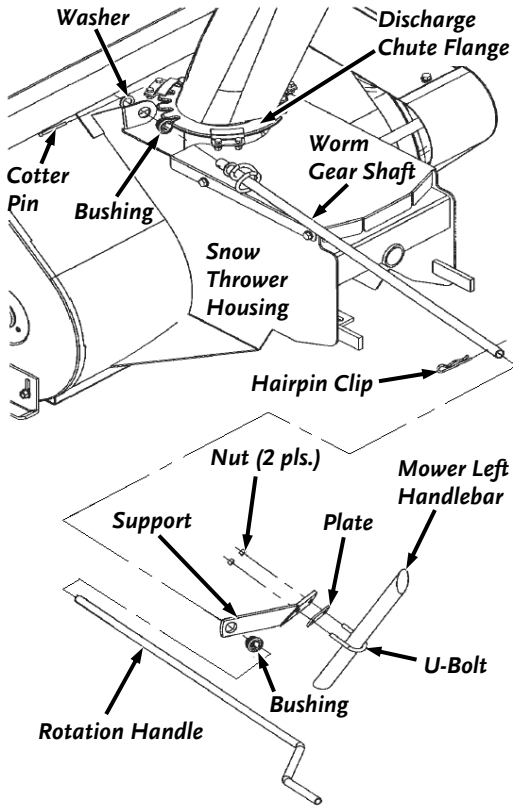

Figure 4
1. Using two 7/16" Wrenches, install the Rotation Handle Support (**Figure 4**) on the left side Handle Bar of your DR FIELD and BRUSH MOWER approximately 28" from the ground using the U-Bolt, Plate and Nuts.
1. Remove the Hairpin Clip from the Rotation Handle and remove the Handle from the Handle Support (**Figure 4** on page 8). Reinstall the Hairpin Clip on the Rotation Handle for storage.
Adjust the Chute direction with the Rotation Handle (*Figure 4* on page 8).